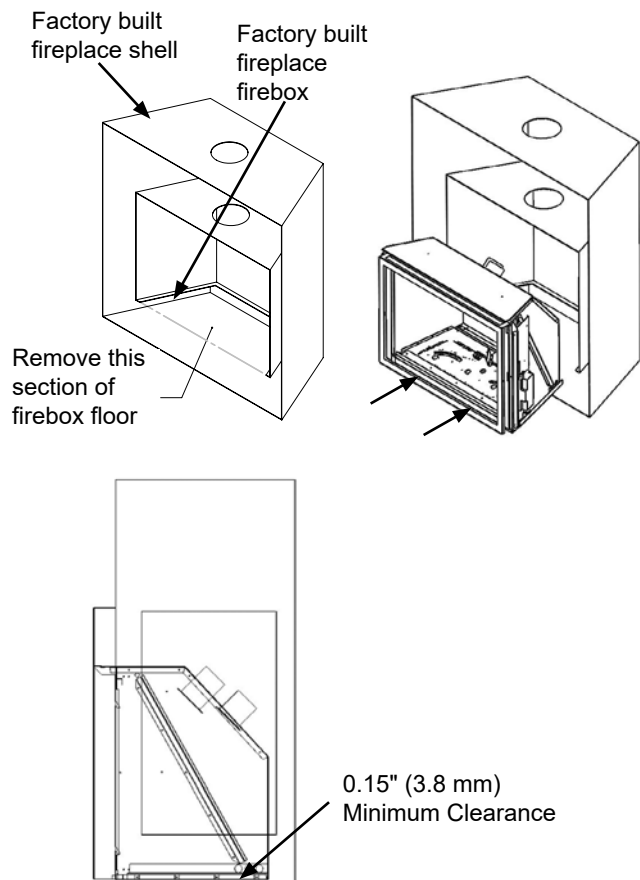

Figure 9.1.02: Removing the Metal Floor
The metal floor (J) may be removed to allow additional room for installation of the insert as long as it does not compromise the structural integrity of the existing fireplace and you maintain a mandatory minimum 0.15" (3.8 mm) clearance between the bottom of the insert and the bottom shell of the existing fireplace. This may be achieved by using strips of noncombustible material or by using leveling bolts on the insert (See **Figure 9.1.02**). If the floor is removed the insert must be placed directly on the metal base of the metal fireplace. **Under no circumstance can it be placed directly on a combustible material.**